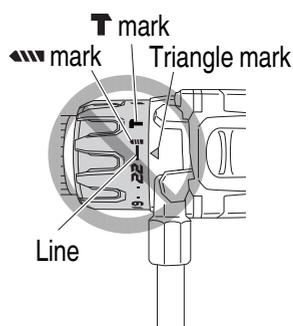

Fig. 16
- Do not use with the clutch dial number at “22” and the line at the middle of the drill mark. Doing so may cause damage. (See Fig. 16)